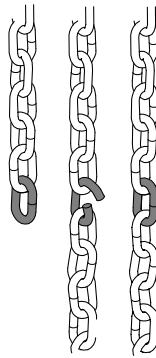

Fig 18
- 2) Connect the hand chain ends together as shown in Fig 18 by twisting open the last link on one end of the chain, and slipping the last link on the opposite end onto the open link.